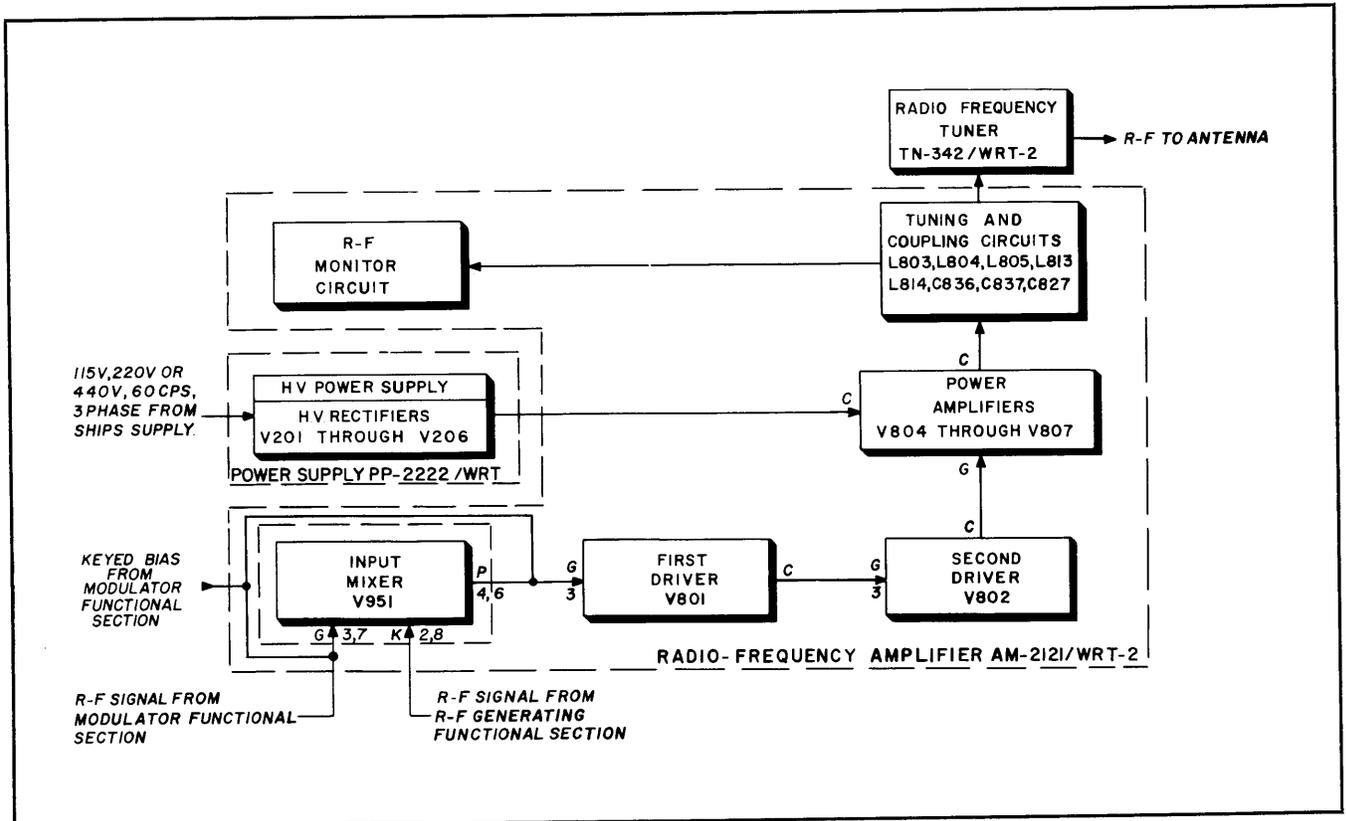

Figure 4-24. Power Amplifier Section, Functional Block Diagram
(1) The power amplifier functional section consists of the high voltage rectifier circuits, located in Power Supply PP-2222/WRT, the r-f amplifier circuits located in Radio Frequency Amplifier AM-2121/WRT-2 and the r-f tuner circuits located in Radio Frequency Tuner TN-342/WRT-2.
(2) Figure 4-24 is a functional block diagram of the power amplifier functional section. As shown in figure 4-24 the r-f signal from the modulator functional section and the r-f signal from the r-f generating functional section are mixed in the first stage of the power amplifier section, input mixer V951. The mixed signal is then amplified in first and second driver stages V801 and V802. The amplified signal from second driver V802 is applied to power amplifiers V804 through V807. The plate voltage for power amplifier tubes V804 through V807 is supplied by the high voltage rectifiers V201 through V206 located in Power Supply PP-2222/WRT. The output of the power amplifier tubes is developed across coil L803 and applied to a tuning and coupling circuit consisting of capacitors C836, C837 and coils L804, L805, L813 and L814